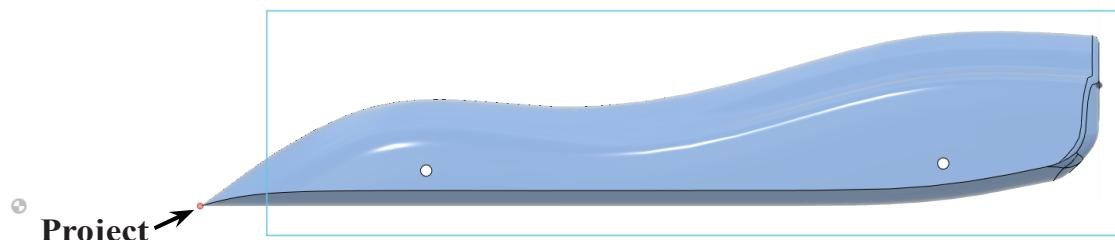

Fig. 13
Step 7. Click Create Menu > Project/Include > Project (P).
Step 8. Click the **forward most vertex on the car body (tip)** and click OK in Project panel, Fig. 13.